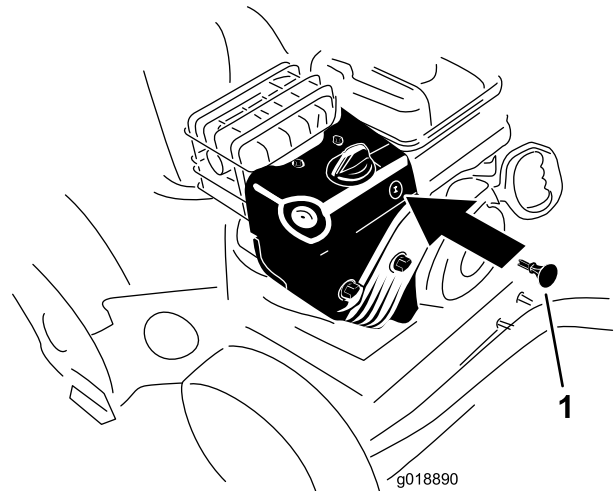

Figure 22
3. Insert the ignition key (Figure 22).